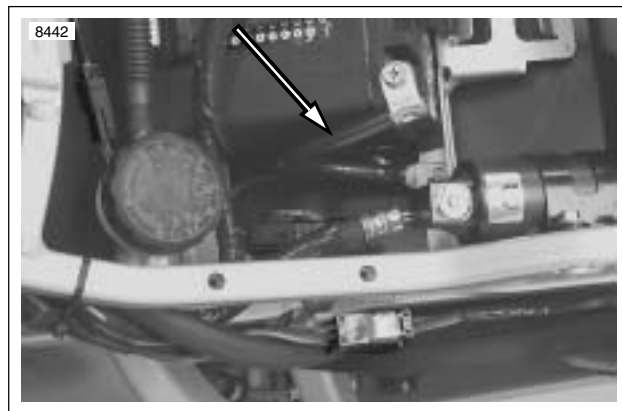

Figure 7-44. Negative Battery Cable
3. Connect tester leads to battery posts and place induction pickup over negative (black) cable. See Figure 7-44.
Positive battery cable runs from starter post to positive battery terminal. Negative battery cable runs from frame to negative battery terminal. See Figure 7-44.